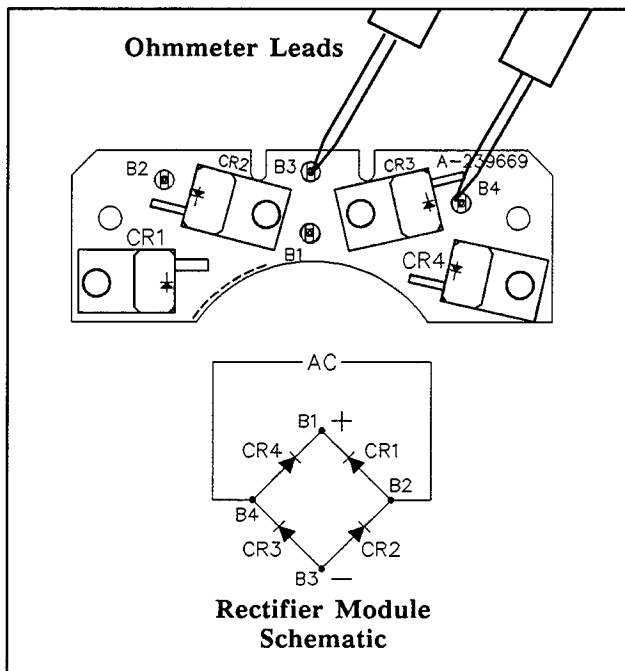

Figure 8-18. Testing Rectifier Module
2. Using an ohmmeter on the R x 100 scale, check resistance between rectifier diodes (as shown in Figure 8-18. To test CR3, for example, place ohmmeter leads on rectifier terminals B3 and B4. The ohmmeter should show a low resistance in one direction and, upon reversing ohmmeter leads, a high resistance in the other direction. Replace the rectifier module if any of the diodes tests different than described.